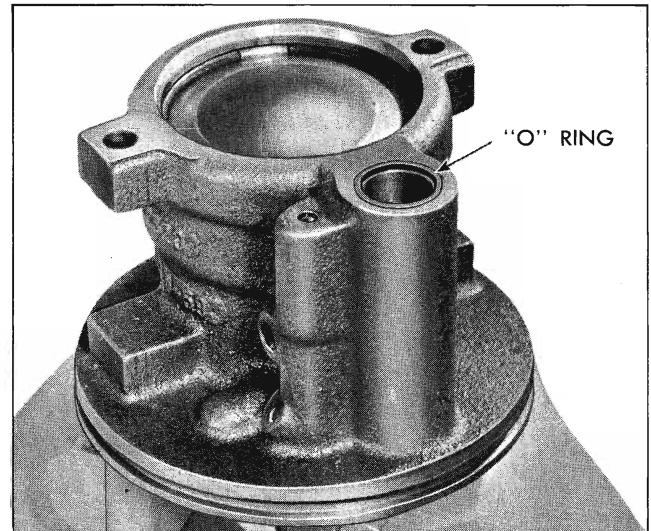

Fig. 9A-53 Housing To Reservoir "O" Ring in Position
14. Lubricate and install new housing to reservoir "O" ring (rectangular section seal) at outlet pressure cavity (Fig. 9A-53).